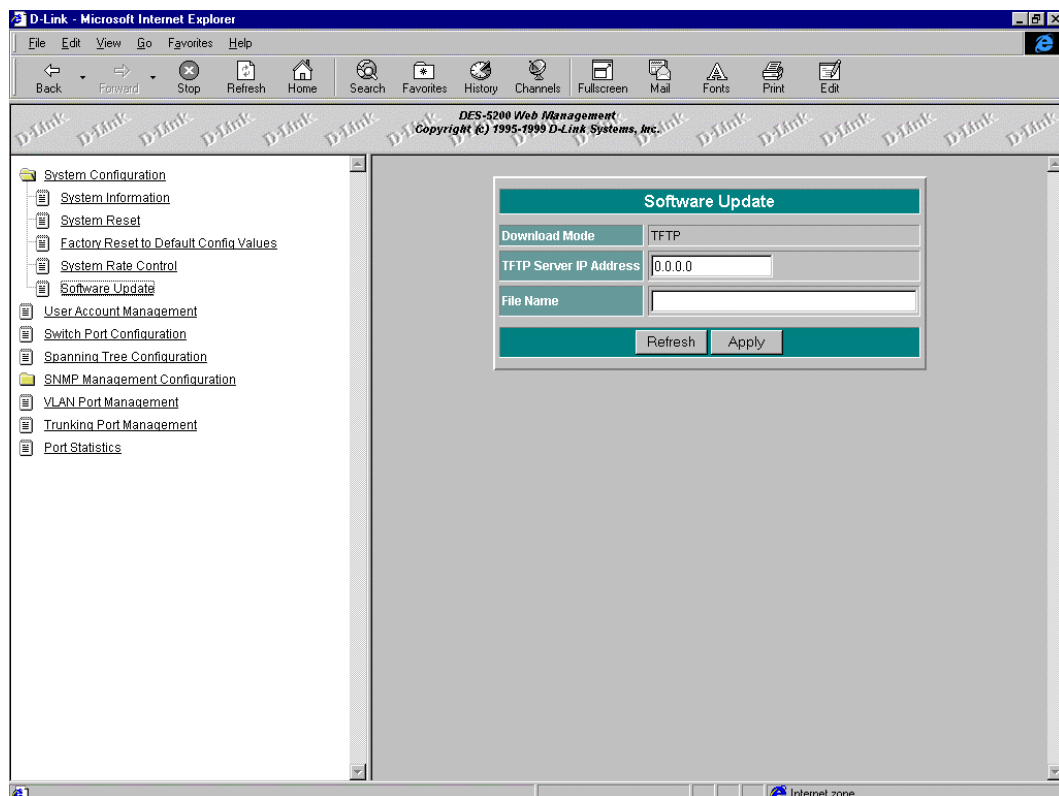

Figure 61: TFTP Transfer
1. Enter the Internet Protocol (IP) address of the TFTP server see Figure 61.